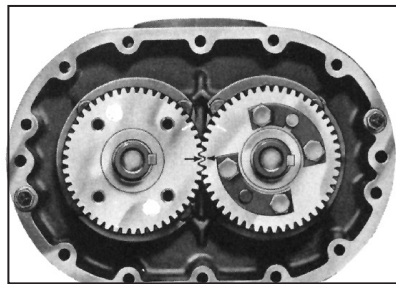
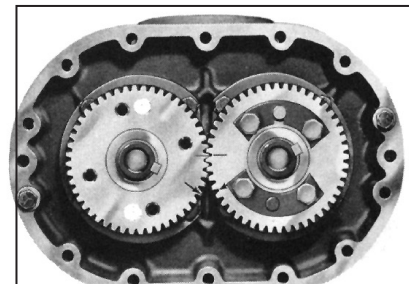

Figure 7 - Position of timing marks
Figure 8 - Position of timing marks
- a. Align timing marks on gears (Figure 7). Rotate drive gear clockwise approximately three teeth and mark a matching reference line on each gear as shown in Figure 8. This gear position is necessary so rotors will clear and not jam. Do not allow the gears to move from the
- Insert gear keys [24] in their proper location and flush with top of shaft. Use the two keyways facing to the right. A tight fit is required. Coat shafts and keys with lubricant. Install drive gear (right hand helix) on drive rotor (left side). To install driven gear, align reference marks as shown in Fig. 7. Install driven gear carefully to avoid damaging any teeth when engaging opposite gear. Secure with spacers [57], washers [25], and flat head Allen screws [29].